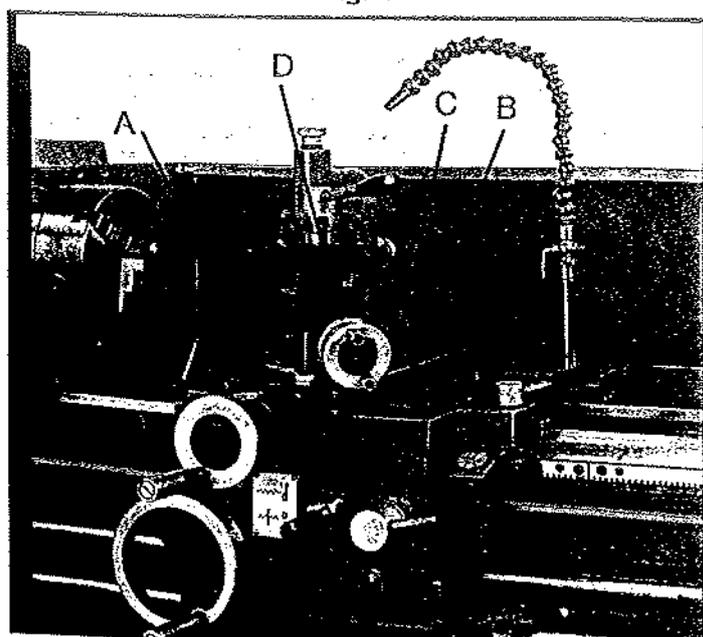

Fig. 5
4. **Apron** - Oil must be up to indicator mark in oil sight glass (front of apron - A, Fig. 5). Top off with Shell Turbo T-68 or equivalent. Remove oil cap (B, Fig. 5) on top of apron to fill. To drain, remove drain plug on bottom of apron. Drain oil completely and refill after the first three months of operation. Then, change oil in the apron annually.
6. **Cross Slide** - Lubricate three oil ports (C, Fig. 5) with 20W machine oil once daily.
7. **Compound Rest** - lubricate one oil port (D, Fig. 5) with 20W machine oil once daily.